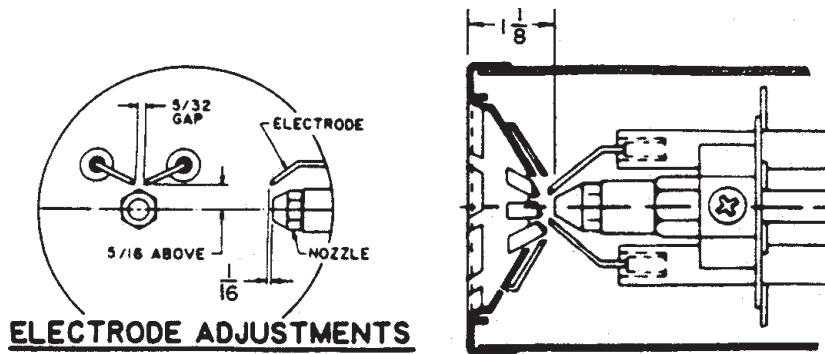

Figure 13: Beckett AFG Gun Setting and Electrode Positioning
1. CLW boilers are equipped with Beckett AFG burners. Items to be checked are nozzle size, head size, gun setting, and positioning of electrodes. This information is shown in Figure 13 and Table 5.